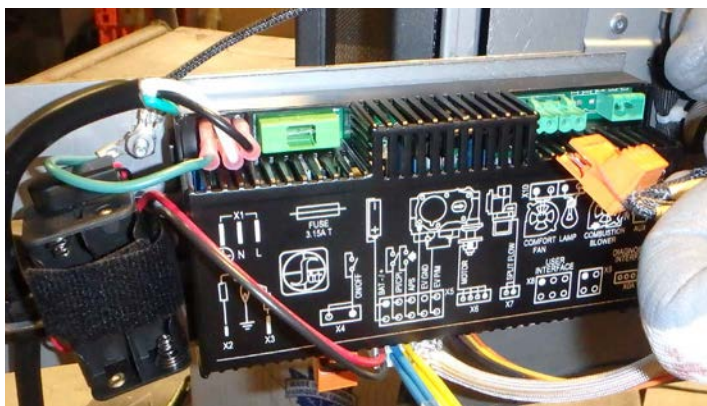

Figure 20.9.02:
8. Pull the bulb to remove. See **Figure 20.9.02**.